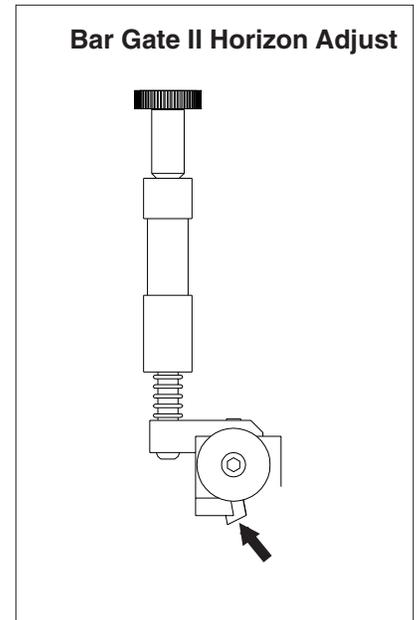

Figure 39. Checking Bar Gate II for Wear
- Bar Gate: Angled wedge begins to flatten excessively (Figure 39).